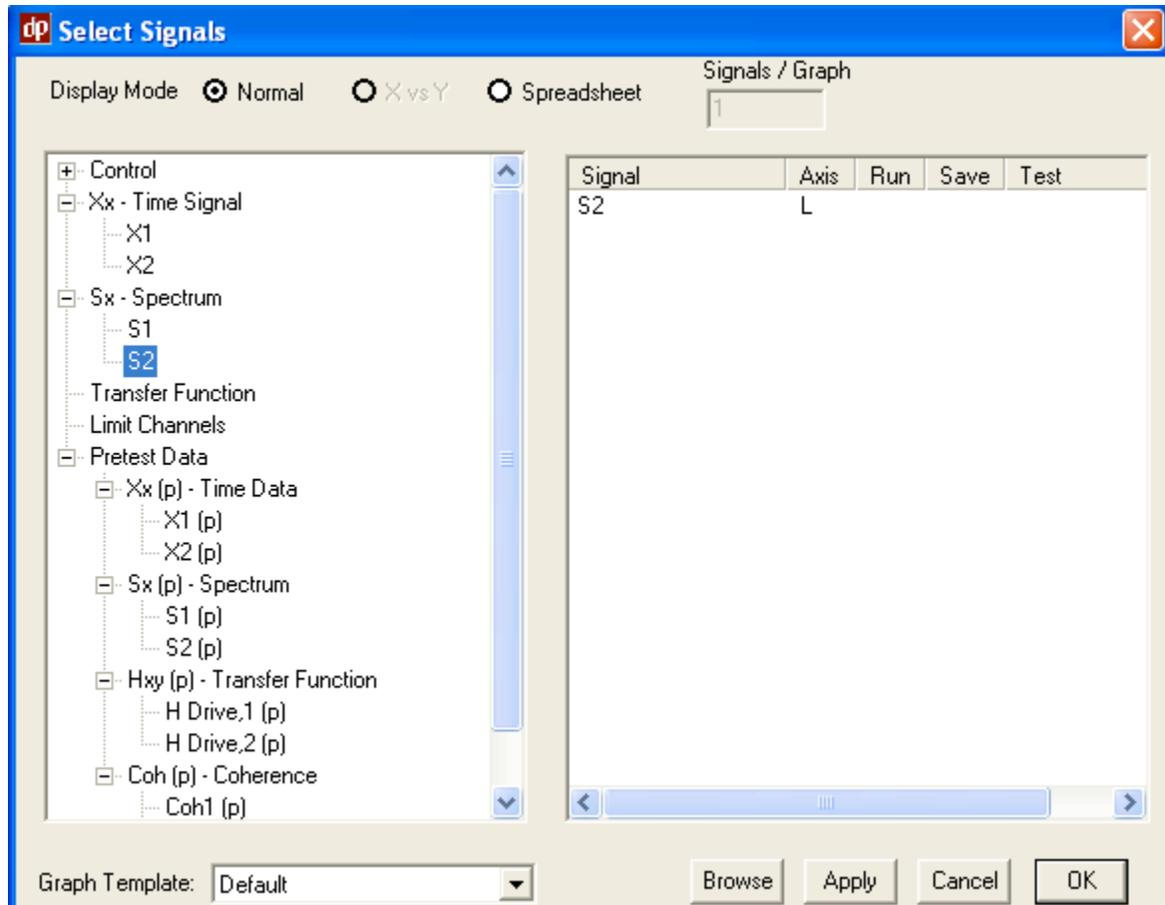

Figure 4-18: Screenshot to select preferred data
- 17) Under “SX-Spectrum” select S2 (this is the channel 2 for the sound pressure); click “OK” and this will bring up the graph. See Figure 4-18.